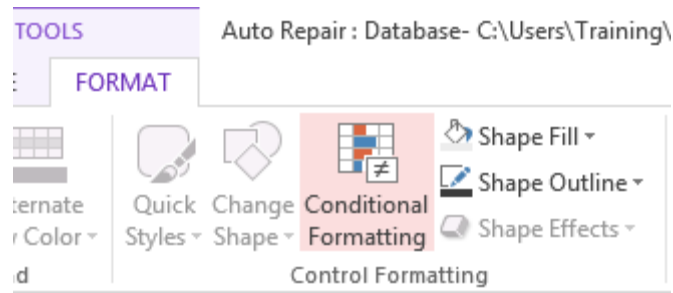
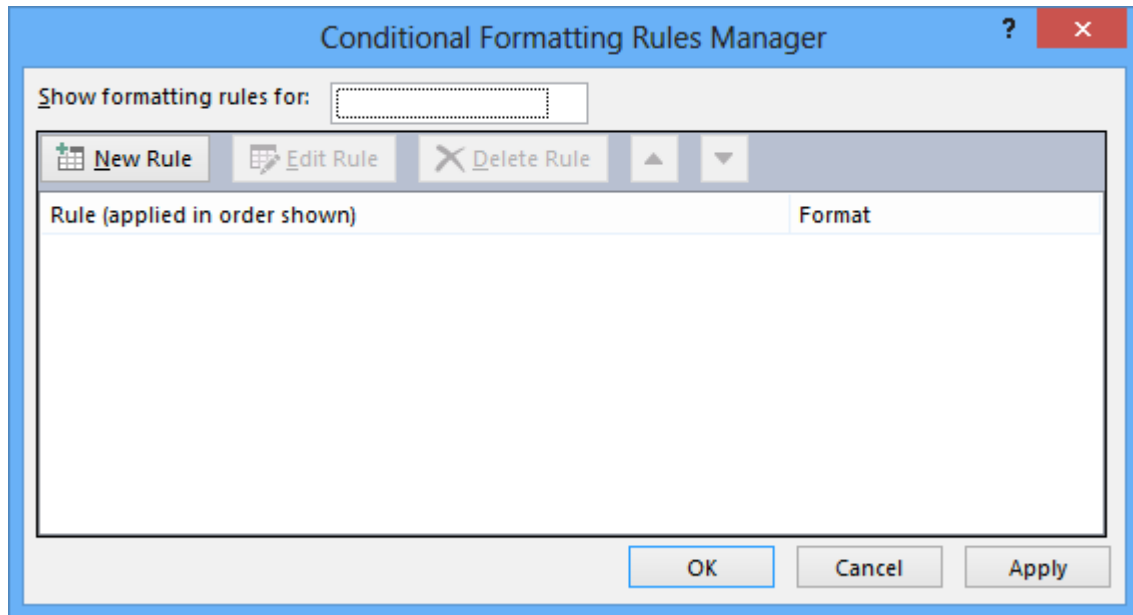
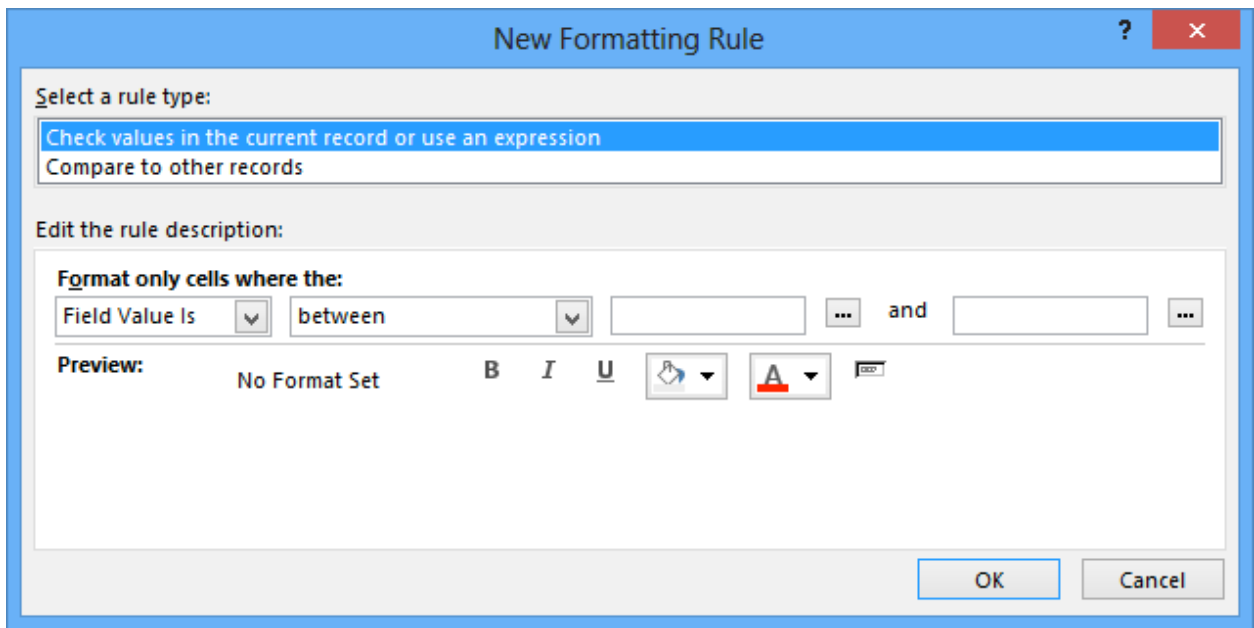

Figure 49: Conditional Button in the Font Group of the Ribbon
Figure 50: Conditional Formatting Window
Figure 51: Empty New Formatting Rule Window
1. Open the *RepairOrder2* form in design view and select the *Odometer* textbox. Click **Format** → **Conditional Formatting** in the Control Formatting group (Figure 49) and the Conditional Formatting window opens (Figure 50). Click the **New Rule** button to create a new formatting rule (Figure 51).